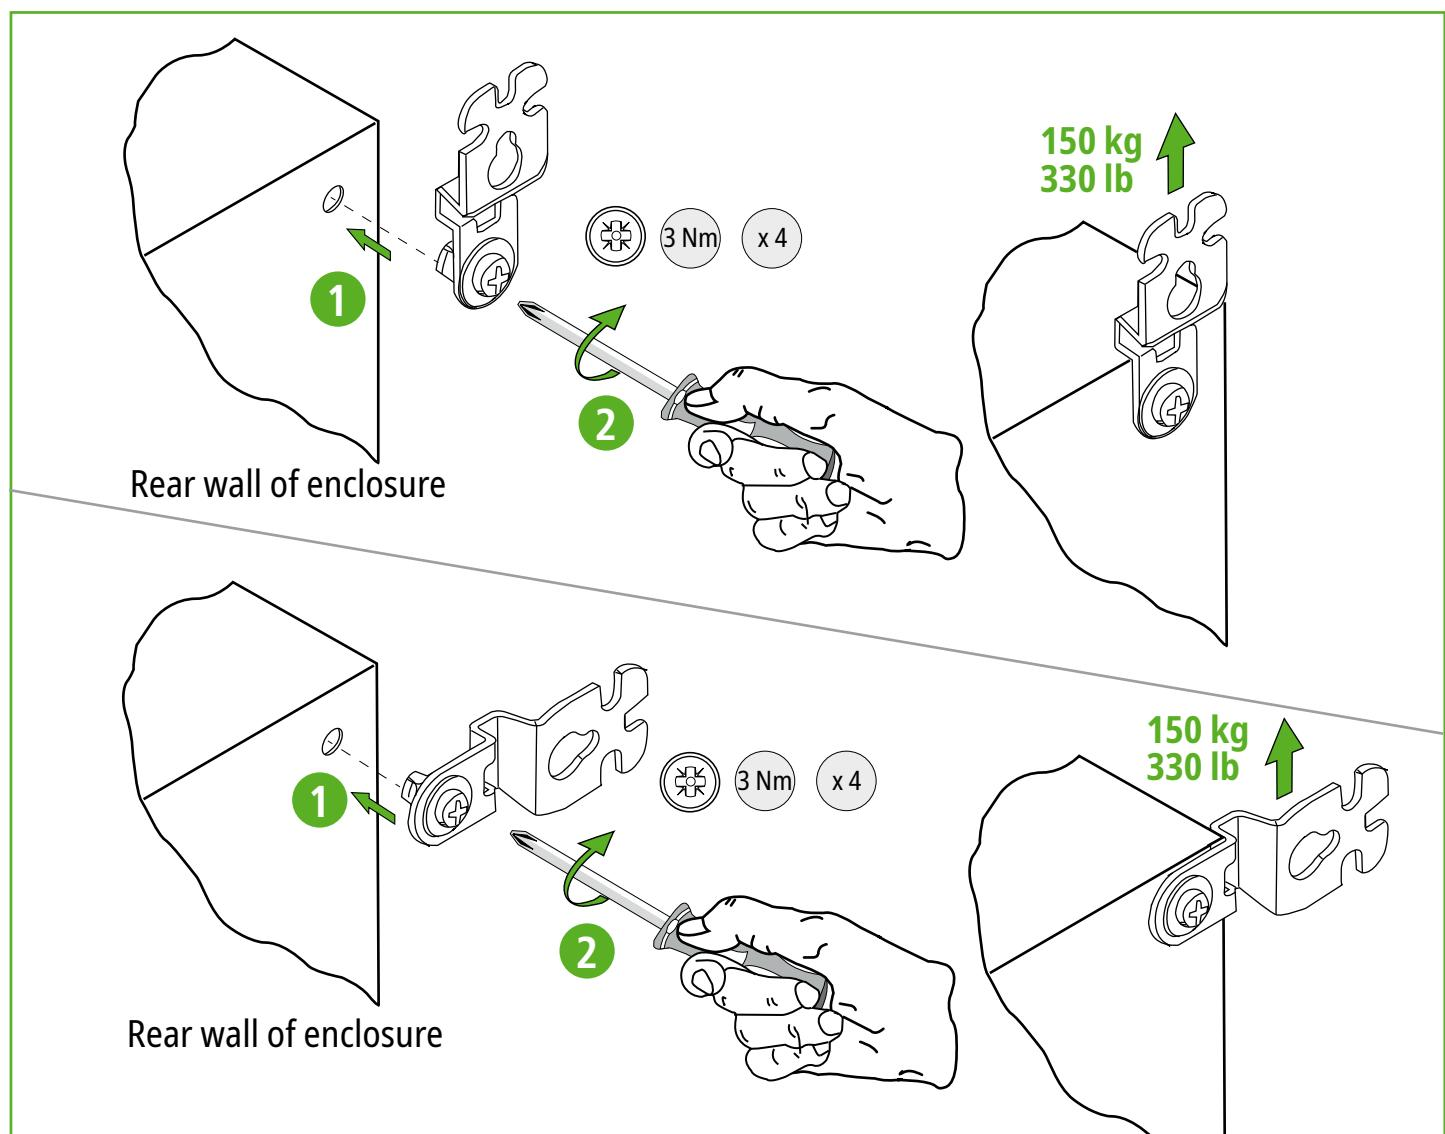

Fig. 3.1 Rear wall of enclosure
Mounting on the wall is possible using the wall mounting brackets included (see Fig. 3.1).
- ➲ Then, the mounting brackets are inserted into the relevant boreholes and screwed tight (see Fig. 3.1).